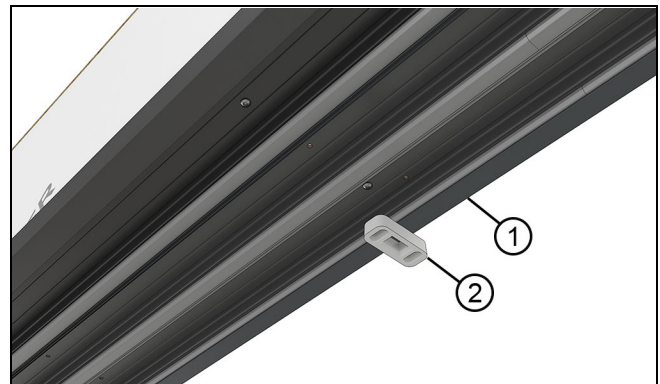
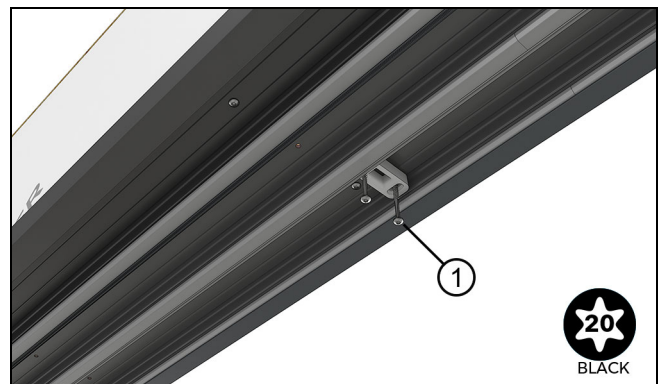

Figure 70
Figure 71
7. On bi-parting units, fasten the flush bolt strike through the pre-drilled holes near the center of the head jamb using #10x3" (64) screws. Make sure there is adequate shimming between the RO and the head jamb at the location of the strike. See Figure 70 and Figure 71.